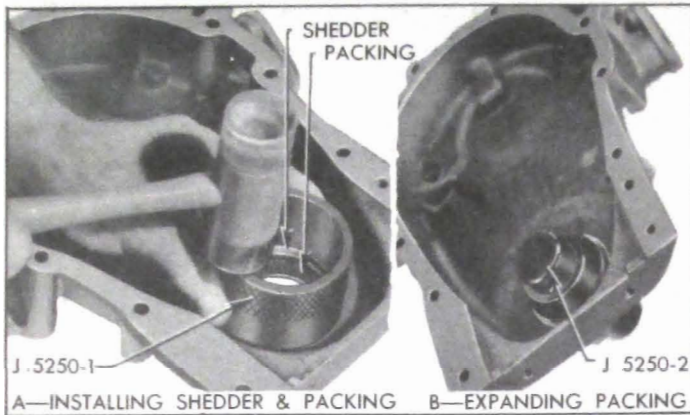

Figure 2-27—Installing Crankshaft Oil Seal
2. Work new packing into the shedder, then drive shedder into recess in timing chain cover, using Installer J 5250-1. See figure 2-27, view A.
3. Push Packing Expander J 5250-2 through the seal to expand the packing into place and size the opening for the crankshaft. See figure 2-27, view B. Apply a light coat of vaseline to the packing.